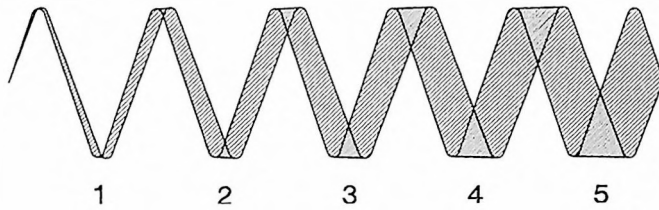

Figure 5-1
9. Adjust the oscilloscope to display about six periods of the unmodulated subcarrier as shown at the top of Figure 5-1. Using MODULATION ADJUST pot R17, increase subcarrier modulation until the fifth crossover occurs midway through a wave period as shown at the bottom of the figure.